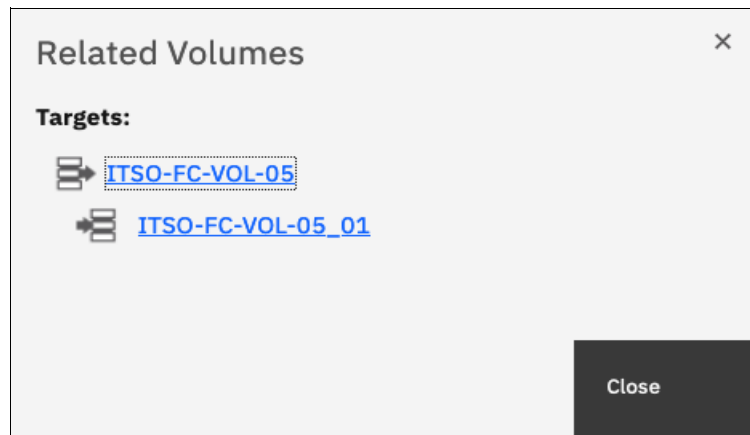

Figure 10-44 Showing related volumes list
3. In the Related Volumes window, you can see the related mapping for a volume, as shown in Figure 10-44. If you click one of these volumes, you can see its properties.